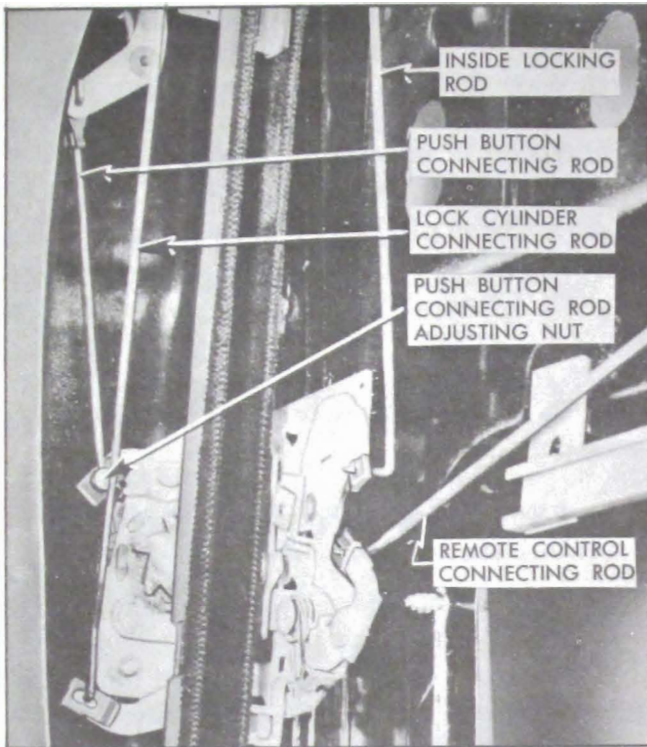

Figure 13-205—Front Door Locking Mechanism
3. Through large access hole disengage spring clips securing lock cylinder connecting rod, inside locking rod, remote control connecting rod and push button connecting rod to lock and detach rods from lock. See figure 13-205.
2. Through rear access hole on all styles disengage spring clip and detach lock cylinder connecting rod from lock. On four-doors, disengage spring clip and detach push button connecting rod and adjusting nut from lock lever. See figure 13-205.
spring clip and detach inside locking rod from lock as shown in Figure 13-205; then remove rod from door.